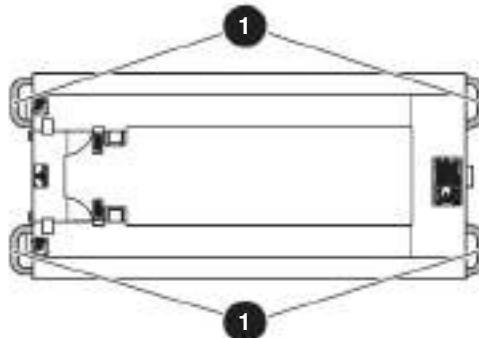
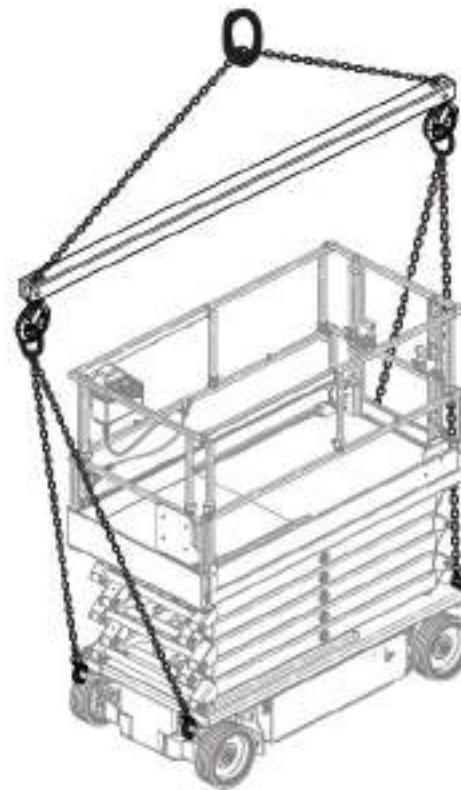
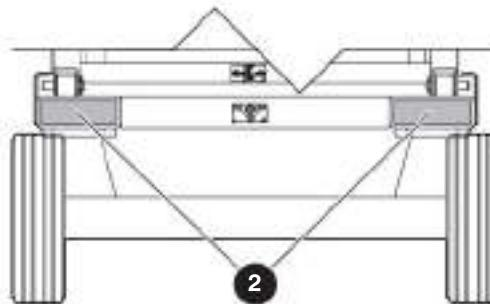

Figure 15 Lift and tie-down points
Figure 16 Appropriate method to hoist
Figure 17 Forklift pockets
- Attach the rigging to all **four lift points** ①, or lift with the forks in the designated **forklift pockets** ②. Refer to Figure 15, Figure 16, and Figure 17.
When you transport the MEWP, it must be attached to a truck or trailer deck. Use the available tie-down points ① to attach the MEWP. Refer to Figure 15. If you do not obey, there is a risk of death or serious injury.
- Tie-down the MEWP to the transport vehicle using the four **tie-down points** ①. Refer to Figure 15.